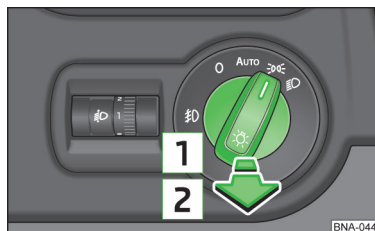

Fig. 31
- ✓ The lights switch is in position **AUTO**, » or » » fig. 31.